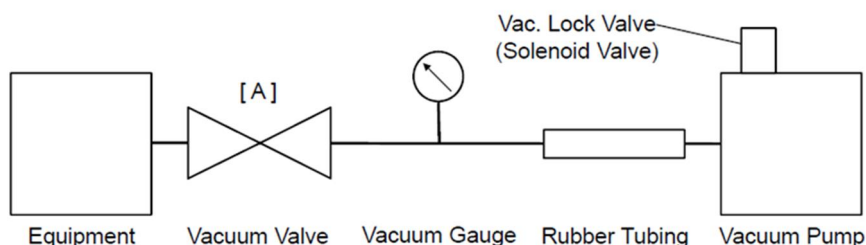
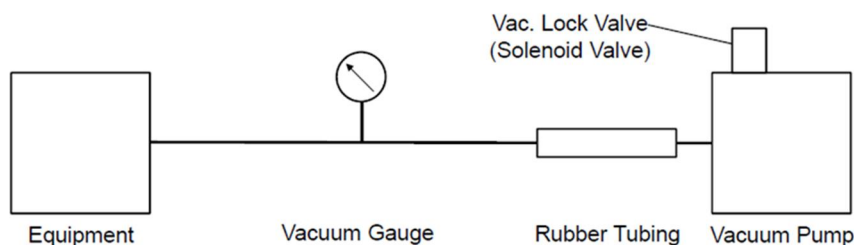

Fig. 14 Connection 1 with Vacuum System for PVD-180B, PVD-360B
Fig. 15 Connection 2 with Vacuum System for PVD-180B, PVD-360B
- 5) Connection as shown in Fig.14 and Fig.15 can be usable for PVD-180B and PVD-360B. In case of Fig.14, almost the same connection as Type PVD-180 and PVD-360 except no leak valve. In case of Fig.15, the equipment will be kept in vacuum by "Vac Lock Valve". The pressure-rise in the equipment will not exceed 66.6Pa within 20 minutes after Shut off of the pump. The back streaming of the pump liquid into the equipment will never occur but the pressure in the equipment will reach atmospheric usually in a day.